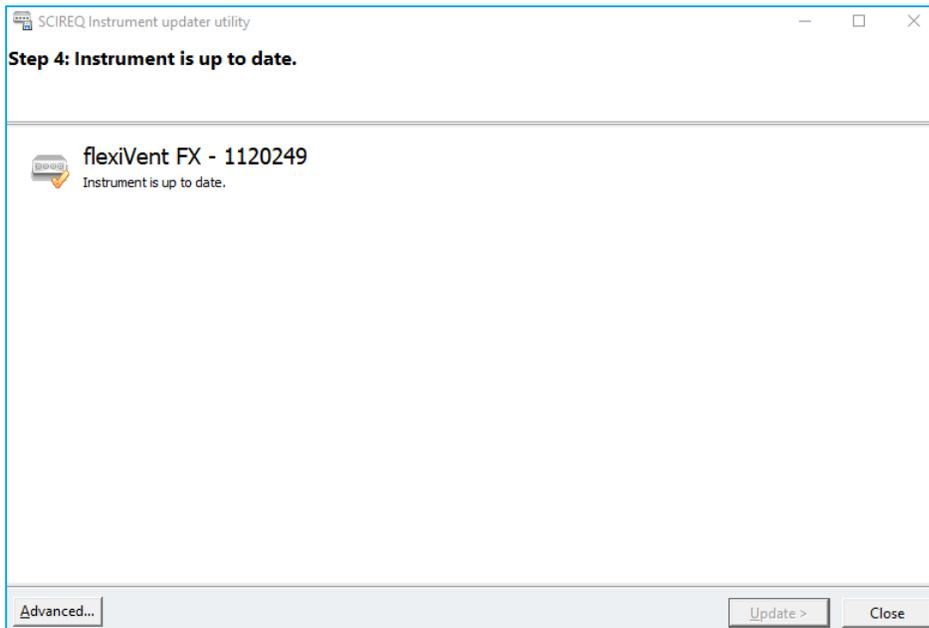

Figure 3-2. Update complete
- » The Instrument updater should confirm that the update completed successfully (Figure 3-2)